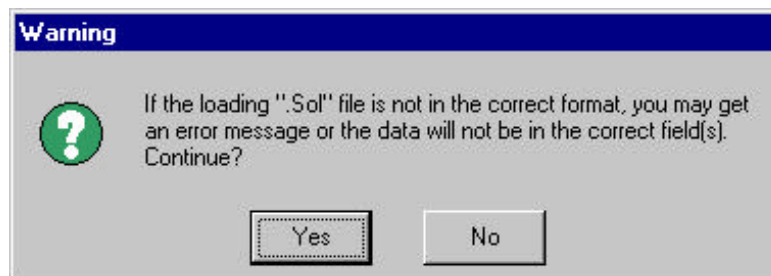

Figure 14.10
- b. A prompt box will appear warning the user of potential problems if the .sol file to be loaded is not in the correct format (Figure 14.10).